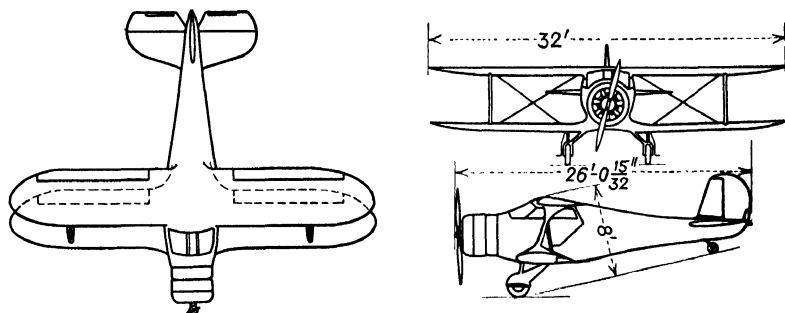

Fig. 171.—Beech Beechcraft D five-place biplane. (Courtesy of Aviation.)
1. Find the wing and power loading of the airplane in Fig. 171, which has the following specifications: